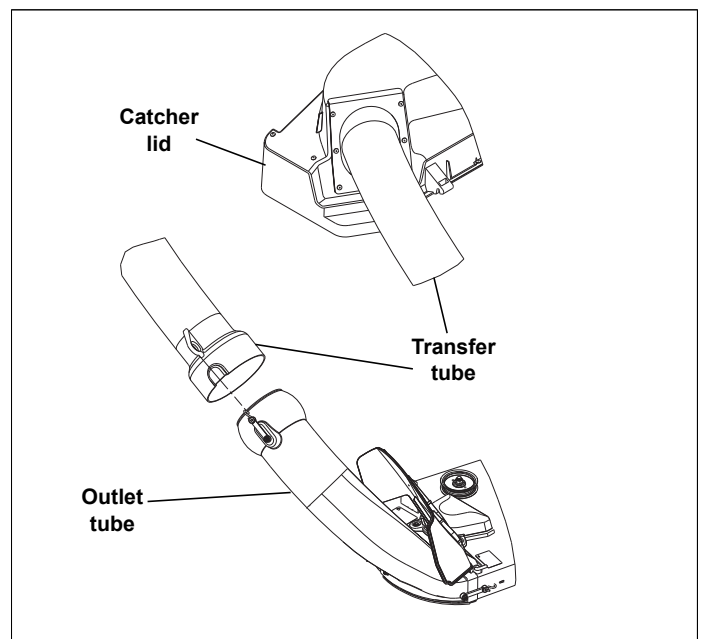

Figure 5-1
- Outlet tube is in place and secured on the discharge chute outlet and deck. Figure 5-1
- Transfer tube is secured in place, with the elastic strap, on the outlet tube and is inserted into the catcher lid. Figure 5-1